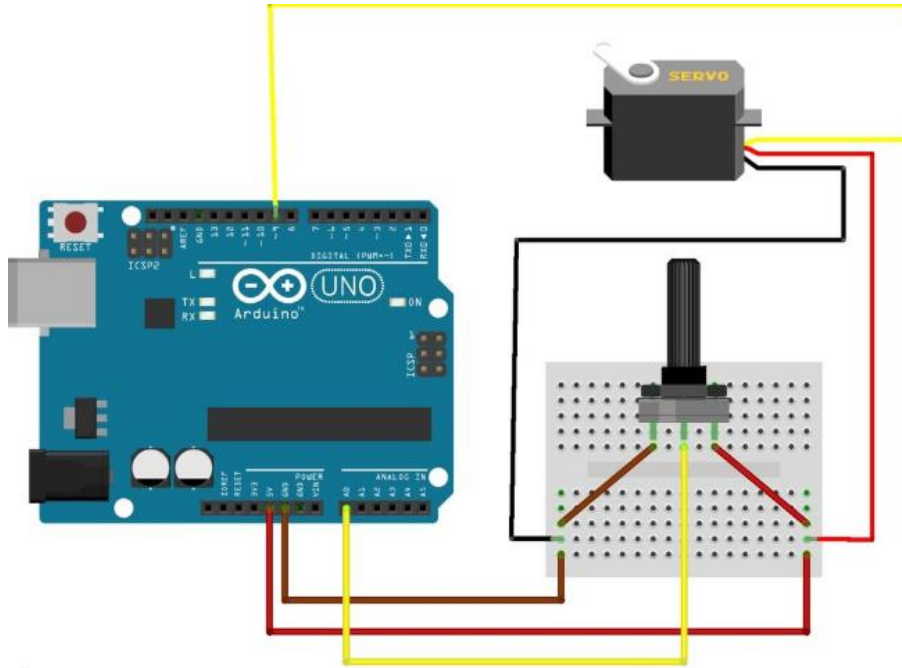

Figure 4: Wiring diagram of servomotor with a potentiometer
1. Connect a servo motor and a potentiometer to the Arduino board by using the wiring diagram below in Figure 4.